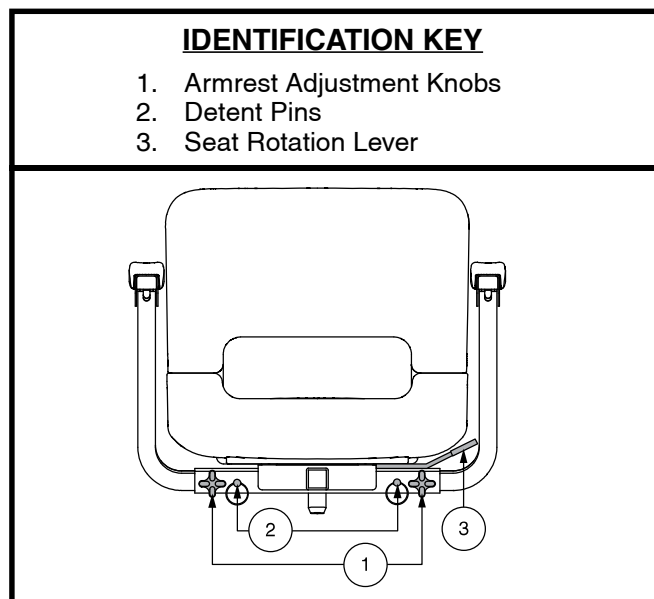

Figure 25. Seat Adjustments
The seat rotation lever, located on the right side of the seat base, secures the seat into several positions. See figure 25.
1. Loosen the armrest adjustment knobs. See figure 25.